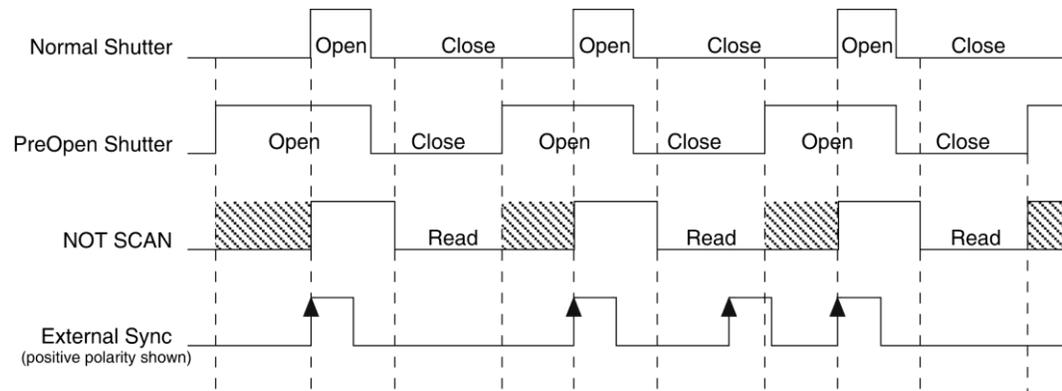

Figure 33. WinX Continuous Cleans Timing Diagram
**Note:** If EXT SYNC is still active (in Figure 33, this means that if it is still HIGH) at the end of the readout, the hardware may interpret this as a second sync pulse, and so on.